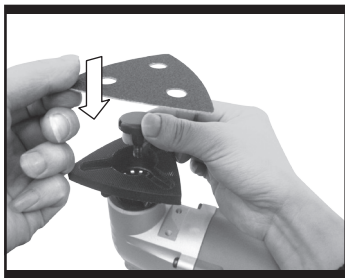

Fig. 4
2. MOUNTING / CHANGING THE SANDING SHEET (See Fig. 4)